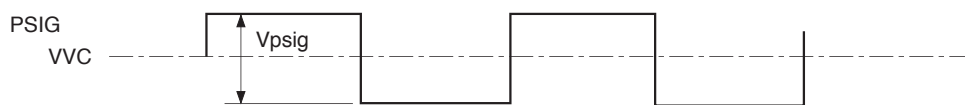

Fig. 1
- 1) During 4:3 display, input the voltage amplitude symmetrical to V_V as shown in Fig. 1.